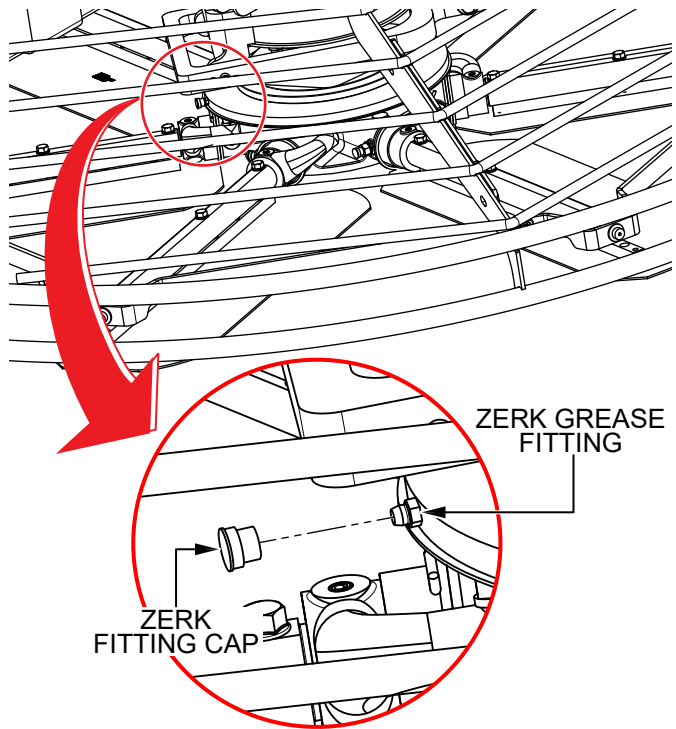

Figure 68. Thrust Collar Lubrication
1. Locate the Zerk grease fitting on either thrust collar (Figure 68). Remove the Zerk grease fitting cap and set it aside.